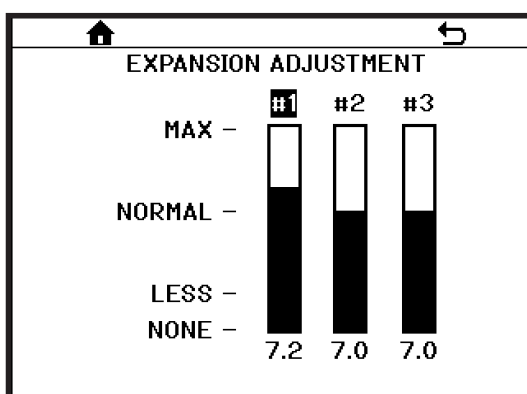

Figure 7.21
- **EXPANSION ADJUSTMENT:** Used to adjust the amount of gas in a drink (Figure 7.21). The range of values is limited based on the configured gas and drink type.
EXPANSION ADJUSTMENT (Figure 7.21) - The amount of gas in the drink can be adjusted in this menu. The adjustment ranges from “MAX” (high levels of gas, high expansion) to “LESS” (lower levels of gas, low expansion). Select the barrel number and adjust the bar graph up or down.